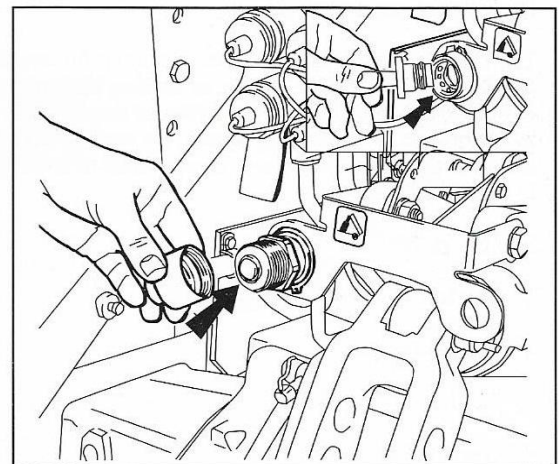
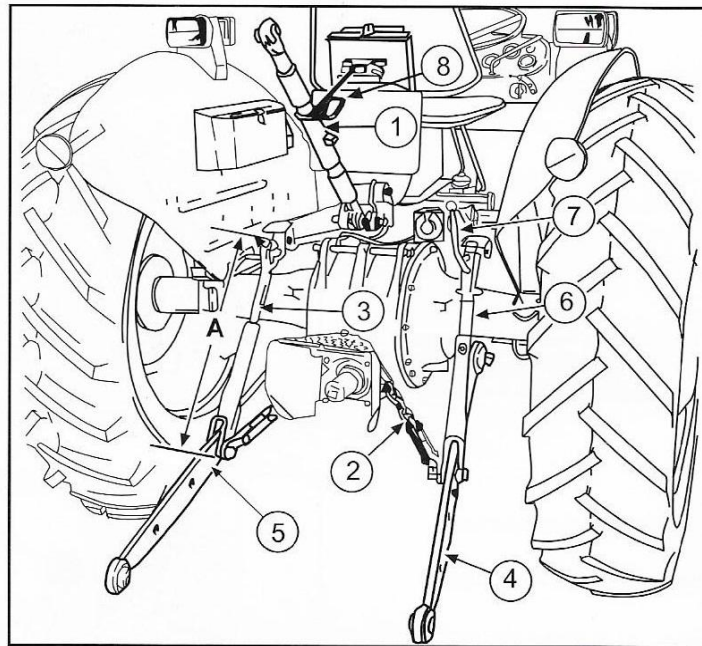

Fig. 50 Quick Coupler
Fig. 51
The trailer tipping pipe connection is a single acting hydraulic circuit with a connection at the rear of the tractor. This connection may be a screw type as shown (Fig. 50) or the quick release coupling (shown in the inset).
Connect the hose from the implement single acting ram to the trailer tipping pipe at the rear of the tractor (Fig. 50).
The lower links, (4, Fig. 51) absorb most of the load exerted by a mounted, or semi-mounted implement. The links are raised and lowered by the action of the lift arms. The lift arms are connected to the lift rods (3) and (6) which couple the lift arms to the lower links (4). The lower links are ball jointed to allow the implement to float sideways slightly when operating, but excessive side-play which would allow the implement to contact the rear tires is prevented by the lower link check chains (2).
Key to Fig. 50:
The top link, (1, Fig. 51) length is adjusted by turning the sleeve. The latch must be pulled back before the sleeve can be turned. The top link is adjusted when the implement is fitted to give the correct operating angle.
The lift rod, (3, Fig. 51) must be set to the correct length to obtain the optimum implement depth and maximum transport height. The left-hand lift rod length (dimension 'A') is set at the factory to the following lengths.
240 tractor for normal lift height, fit the linkage as shown in Fig. 50. If an implement is fitted which requires a higher lift capacity, the lift rods can be relocated in an alternative hole, (5, Fig 51). This latter position reduces the operating angle of the lower link end.
When fitting implements to the lower links, (see 4, Fig. 51) always fit the left-hand link first and use the levelling lever, as necessary, to assist in the fitting of the right-hand link. The maximum recommended lift load for normal working is: